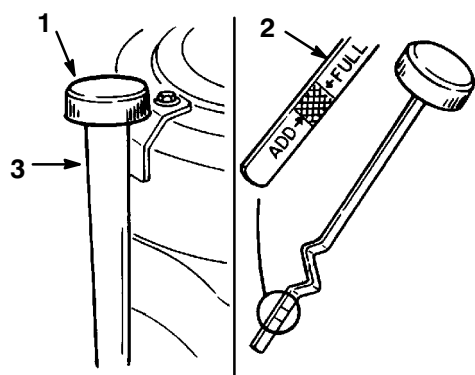

Figure 28
3. Clean around the oil dipstick (Fig. 28) so dirt cannot fall into the filler hole and damage the engine.
4. Unscrew the oil dipstick and wipe the metal end clean (Fig. 28).
5. Screw the oil dipstick fully onto the filler tube (Fig. 28). Unscrew the dipstick again and look at the metal end. If oil level is low, slowly pour only enough oil into the filler tube to raise the level to the "FULL" mark.
6. Slowly pour approximately 80% of the specified amount of oil into the filler tube (Fig. 28). Check the oil level; refer to Checking Oil Level, page 34, steps 4-5.